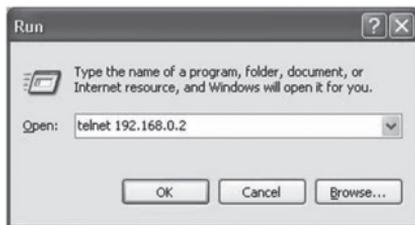

Figure 25 Access through Telnet
Step 2: Enter "telnet IP-address" in the Run dialog box, as shown in Figure 25.